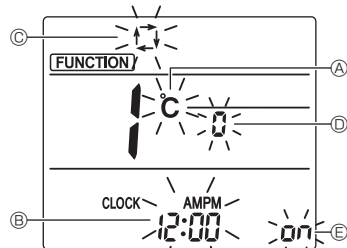

Fig. 4-8
3. Check that function No. "1" is displayed, and then press the **SET** button ③.
- The Screen display setting screen will be displayed. (Fig. 4-8)
- Press the **DOWN** button ④ to change the function No.
#### 4.9.2. Changing the temperature unit (Fig. 4-8 Ⓐ)
#### 4.9.3. Changing the time display (Fig. 4-8 Ⓑ)
#### 4.9.4. Changing the AUTO mode (Fig. 4-8 Ⓒ)
#### 4.9.5. Changing the pair No. (Fig. 4-8 Ⓓ)